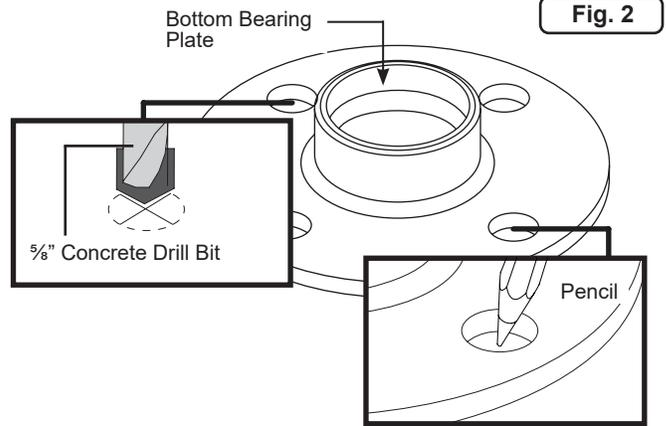

Fig. 2
2. Mark the center location of all four anchor holes for the bottom bearing plate (Figure 2). Set aside the bottom bearing plate.
3. Using a  $\frac{5}{8}$ " concrete drill bit, drill four anchor holes, 3" in depth, at the center of each marked location (Figure 2).